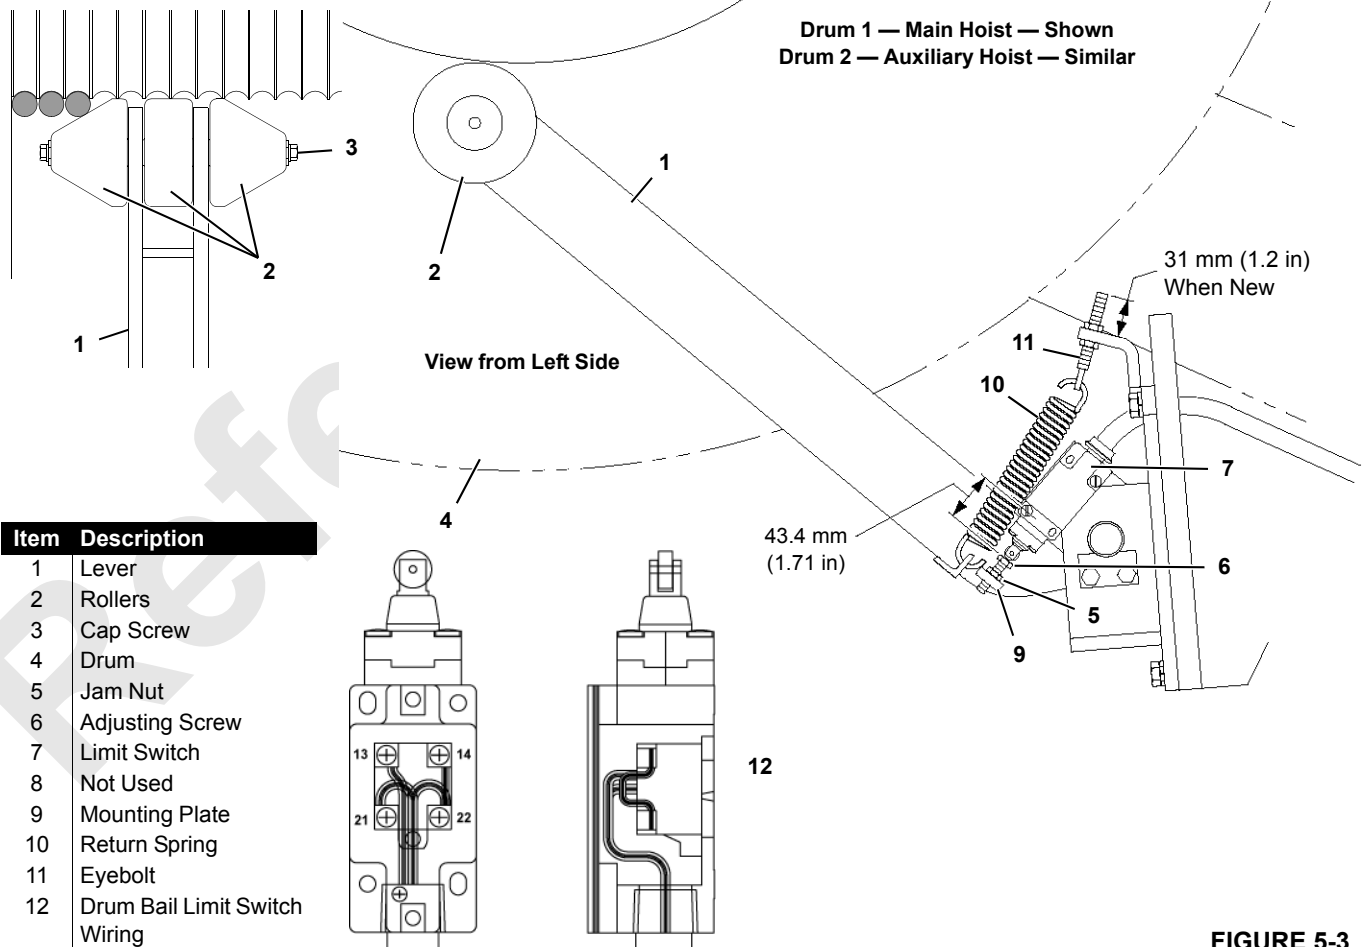

FIGURE 5-3
See Figure 5-3 for the following procedure.
- a. The limit switch should be depressed to the dimension given in Figure 5-3 for normal operation.
2. Make sure the rollers (2) contact the drum (4).
3. Turn the adjusting screw (6) until the limit switch is depressed to 43,4 mm (1.71 in) as shown in Figure 5-3.